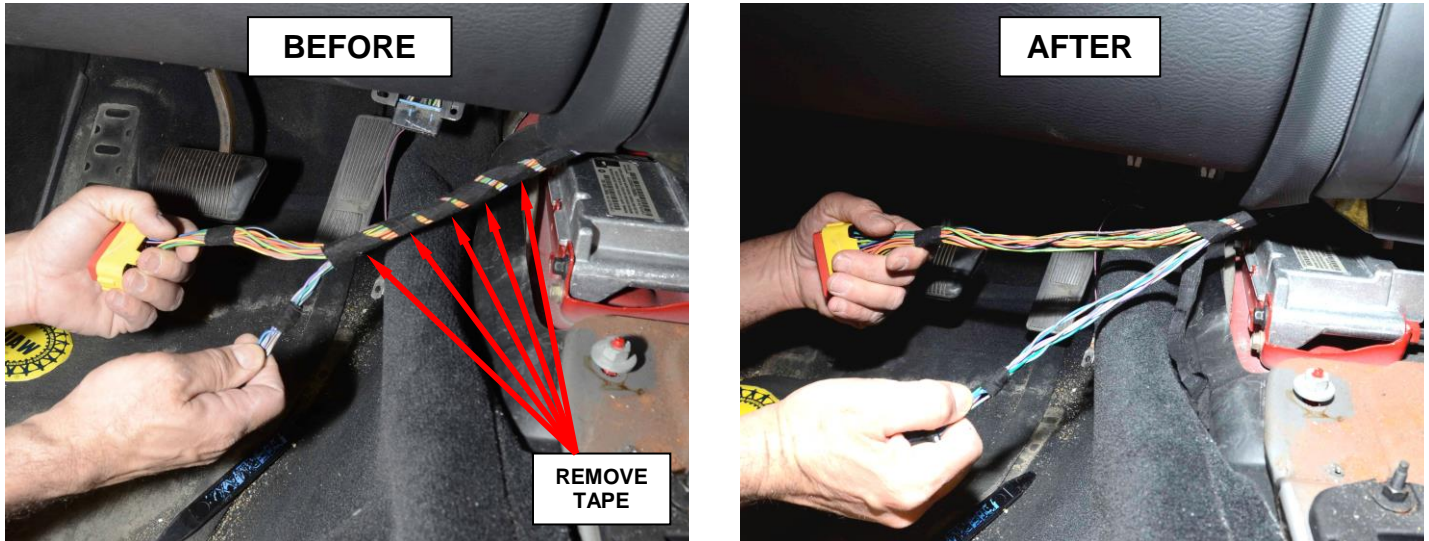

Figure 7 – Modify Vehicle Wire Harness
21. Pull the ORC module wire harness out and remove the tape that holds the large yellow and small black wire connector wire harnesses bundles together (Figure 7).